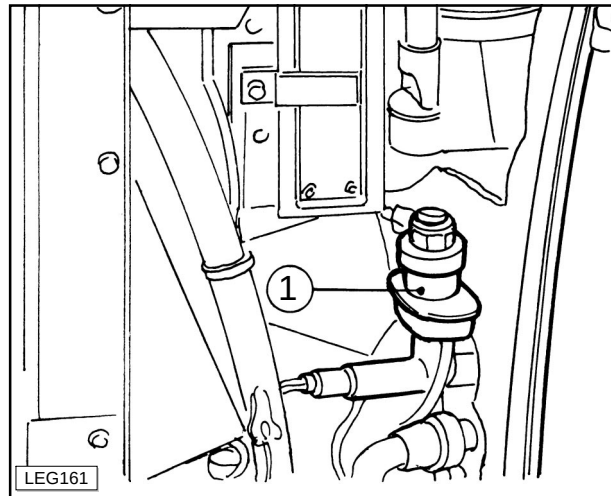
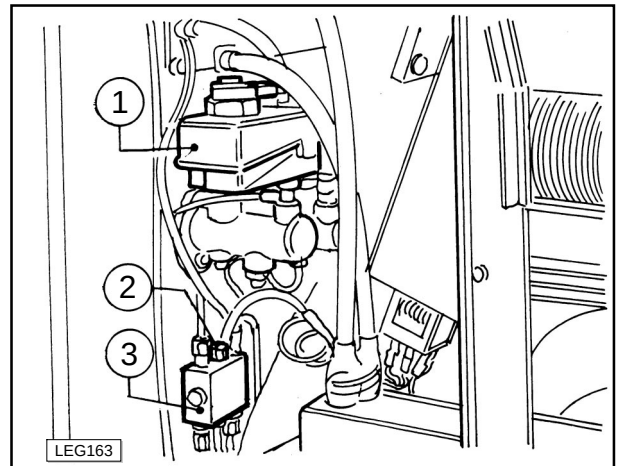
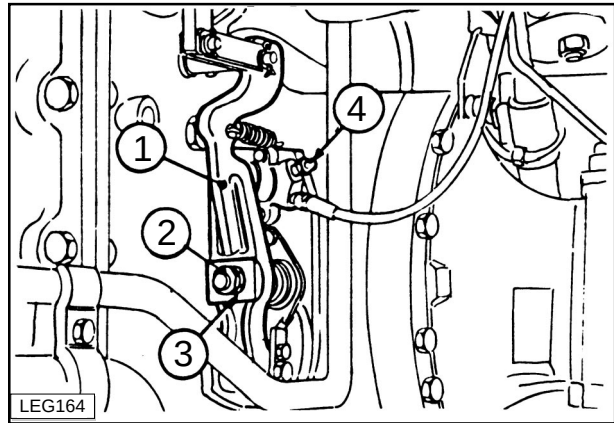

Fig.5-23
Fig.5-25
Fig. 5-26
At suitable intervals, check the level of the fluid in the clutch reservoir. Make sure that the reservoir (1 - Fig. 5-23) is always full. Always use mineral based oil (the same as the brake circuit) as indicated in the Lubricant and Fuel Chart.
- 1 - Make sure that the reservoir (1 - Fig. 5-23) is full.
- 6 - On completion of bleeding, top up the fluid level in the reservoir (1 - Fig. 5-23).
At suitable intervals, check the level of the fluid in the brake reservoir. The reservoir (1 - Fig. 5-25) must always be kept full. Top up only with the correct brake fluid, as indicated in the Lubricants and Fuels chart.
WARNING: When changing and topping up the fluid in the clutch, if applicable, (1 - Fig. 5-23) and brake (1 - Fig. 5-25) reservoirs, be absolutely sure to use the correct type of fluid as different varieties have totally different properties. These machines use an LHM mineral-based fluid. Never mix or exchange different types of fluids. See the Lubricant and Fuel Chart for fluid types.
- 1 - Check that the brake fluid reservoir (1 - Fig. 5-25) is full.
- 3 - Press down on the left-hand brake pedal. Meanwhile, unscrew the bleeder (4 - Fig. 5-26) by half a turn to expel all frothy fluid from the bleeder. Re-tighten the bleeder first and then release the pedal.
- 7 - On completion of bleeding, top up the brake fluid reservoir (1 - Fig. 5-25).
- 1 - Depress both brake pedals at the same time. Use the special coupling lock to keep the pedals together. Unscrew the bleed screw (2 - Fig. 5-26) on the on-off valve (3 - Fig. 5-25) until bubble-free oil flows out. Re-tighten the screw and release the pedals.